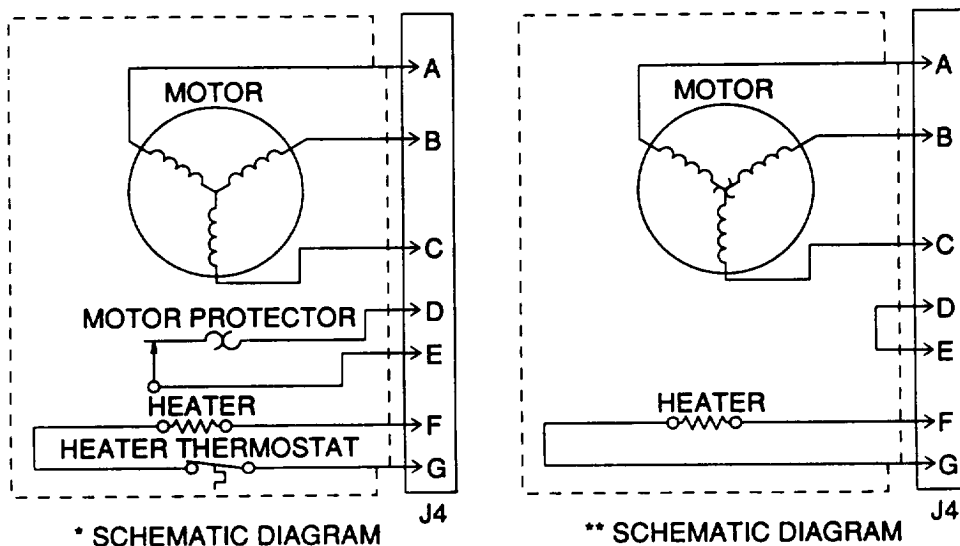

Figure 5-17. Compressor Schematic
(1) Assuming that the power has been disconnected at the power source, and covers have been removed during access and testing, proceed as follows.
(2) Remove the retaining hardware from the connector. Pull the connector out of the box to gain access to the solder connections.
(3) Tag and unsolder wires.
(4) Using tags and wiring schematic (fig. 5-17), solder wires to new connector. Remove the tags.
(5) Secure the connector to the compressor junction box with appropriate retaining hardware removed in step (2) above.